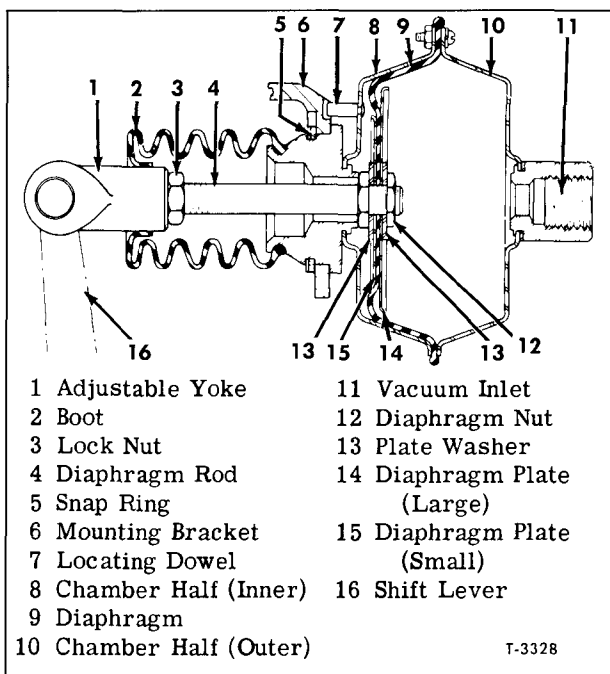

Figure 20—Inter-Axle Vacuum Shift Chamber (Eaton)
2. Remove clevis pin attaching diaphragm rod yoke to lock-out shift lever (fig. 20).
to bracket using snap ring (fig. 20).